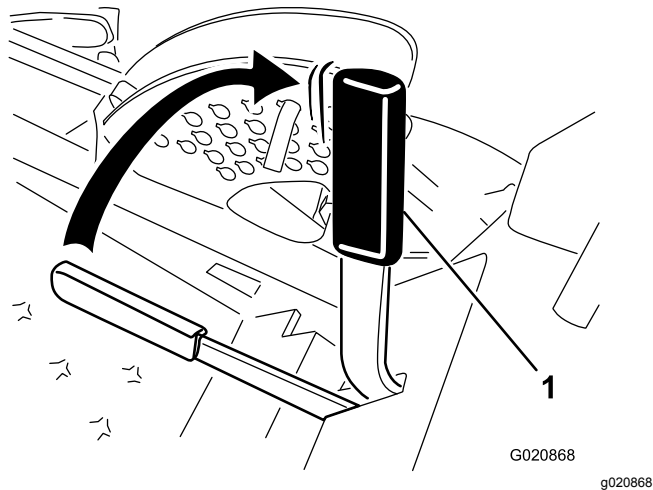

Figure 14
2. Pull up and back on the parking-brake lever to set the parking brake (Figure 14).